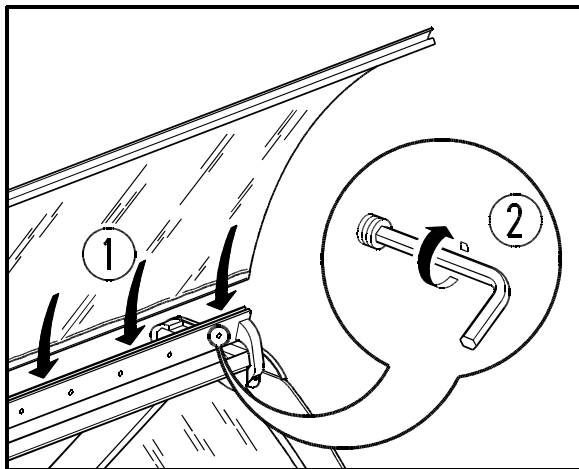

FIG. 10
- Insert the curved glass panels centering them accurately on the aluminum profile and fasten them by tightening the dowels with a hexagonal wrench (FIG. 10 page 3).